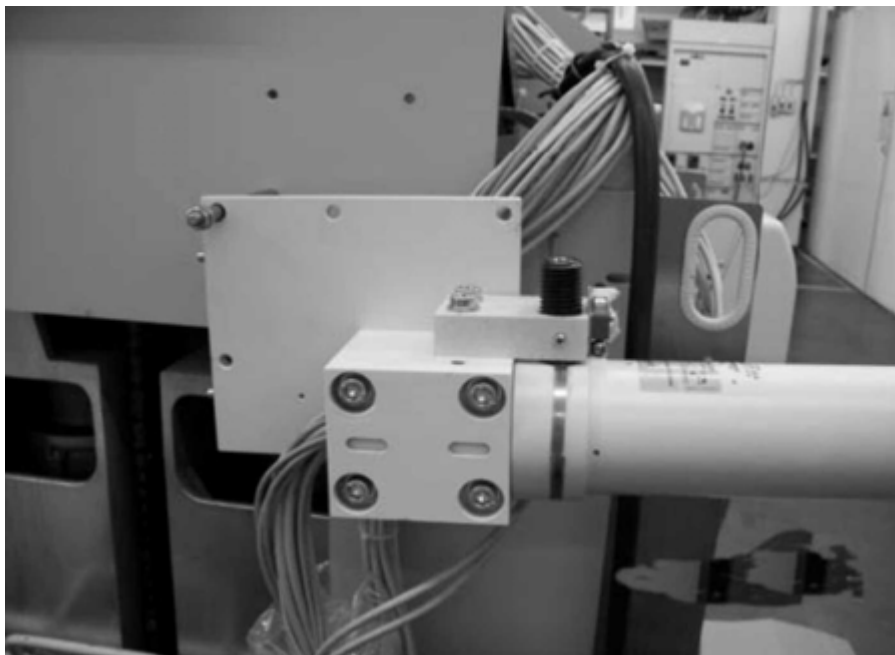

Fig. 33: Unit connection for the support arm
- In the right-side unit layout, screw the flange bolts into the bottom left thread (M8) of the 5 fastening threads on the unit connection of the TFT support arm (Fig. 33 / p. 30) if not already installed at the factory.
- Screw the securing nut onto the bolt (Fig. 33 / p. 30).
- Remove the bolt (Fig. 33 / p. 30).